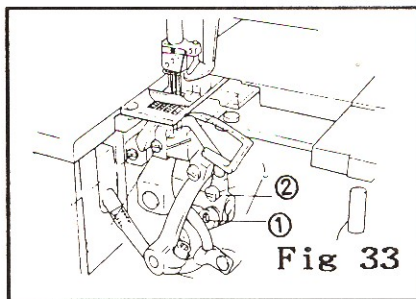

Fig 33
1. In order to gain a clearance about 0 - 0.05mm, loosen the screw (1), then move the needle guard (2) back or forth.(Fig33)